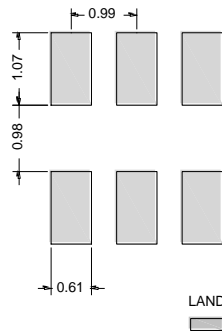

Fig. 4-2
2) Recommended Land Pattern: See Fig.4-2.